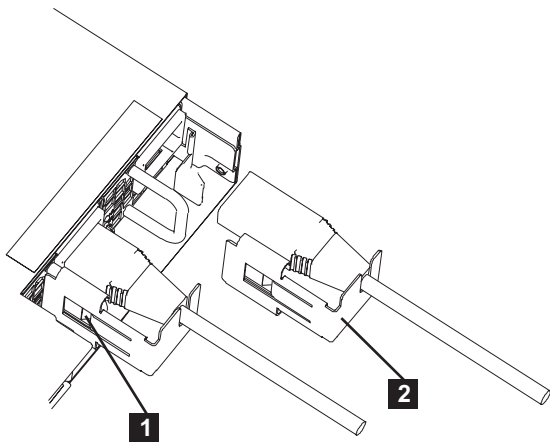

Figure 24. Cable-retention brackets
The SAN Volume Controller 2145-CG8 or 2145-CF8 uses two toolless cable-retention brackets, one to retain each cable from the uninterruptible power-supply to one of the two SAN Volume Controller 2145-CG8 or 2145-CF8 power supplies, as shown in Figure 24.
4. Align the cable-retention bracket on the power cord so that the bracket is to the left of the cord, as shown by **2** in Figure 24 on page 41.